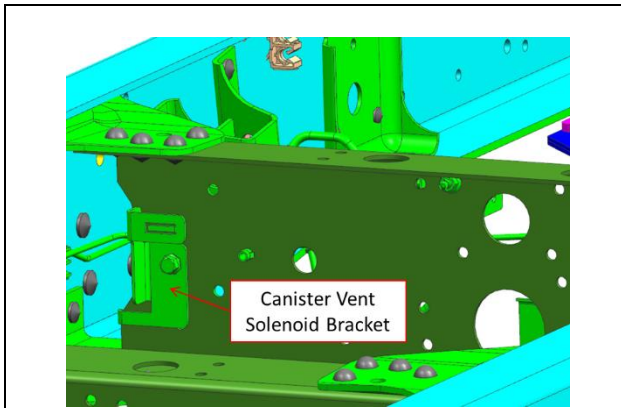
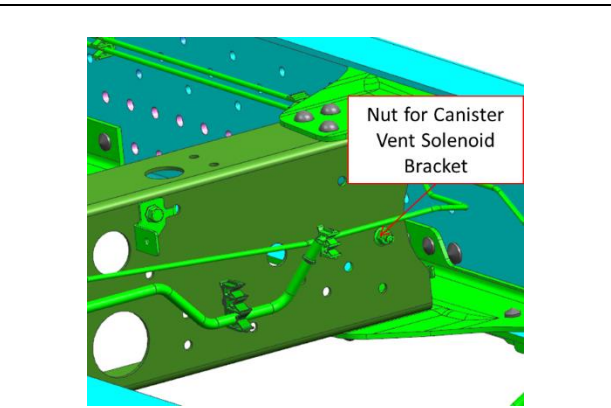

**Figure 8**
**Figure 9**
7. Remove the EVAP Canister by unscrewing the two (2) EVAP Canister mounting bolts and one (1) nut. (See Figure 8.) Carefully set the EVAP Canister and hardware aside in a safe place for reinstallation later. (See Figure 9.)